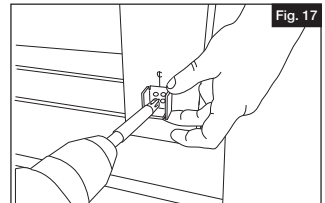

Fig. 17
- Make an intersecting mark representing the desired center line of your installed rail panel. Set the bracket in place, centering it on the mounting surface with the aid of the line previously drawn. Attach using 2 fasteners appropriate for the material to which you are installing the bracket (Fig. 17).